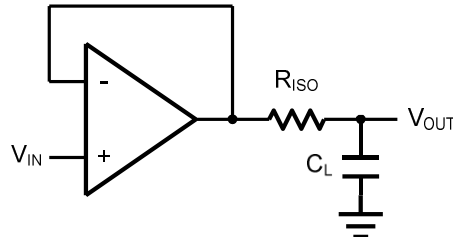
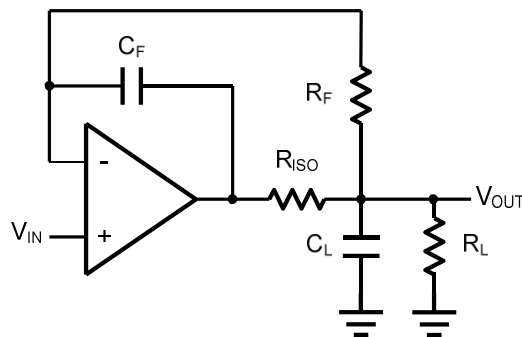

Figure 2. Indirectly Driving a Capacitive Load Using Isolation Resistor
Figure 3. Indirectly Driving a Capacitive Load with DC Accuracy
The HGV602X family is optimized for bandwidth and speed, not for driving capacitive loads. Output capacitance will create a pole in the amplifier's feedback path, leading to excessive peaking and potential oscillation. If dealing with load capacitance is a requirement of the application, the two strategies to consider are (1) using a small resistor in series with the amplifier's output and the load capacitance and (2) reducing the bandwidth of the amplifier's feedback loop by increasing the overall noise gain. Figure 2. shows a unity gain follower using the series resistor strategy. The resistor isolates the output from the capacitance and, more importantly, creates a zero in the feedback path that compensates for the pole created by the output capacitance.
The circuit in Figure 3 is an improvement to the one in Figure 2. RF provides the DC accuracy by feed-forward the VIN to RL. CF and RISO serve to counteract the loss of phase margin by feeding the high frequency component of the output signal back to the amplifier's inverting input, thereby preserving the phase margin in the overall feedback loop. Capacitive drive can be increased by increasing the value of CF. This in turn will slow down the pulse response.